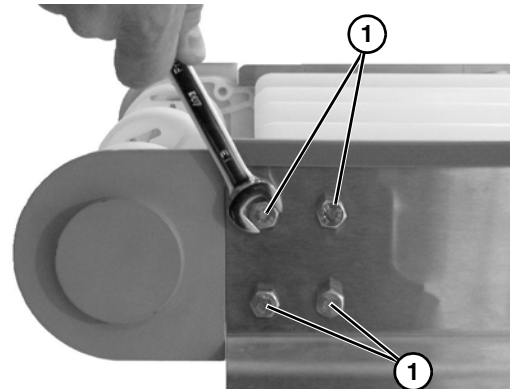

Figure 51
- Remove four head plate bolts (**Figure 51, item 1**). Repeat on opposite side.